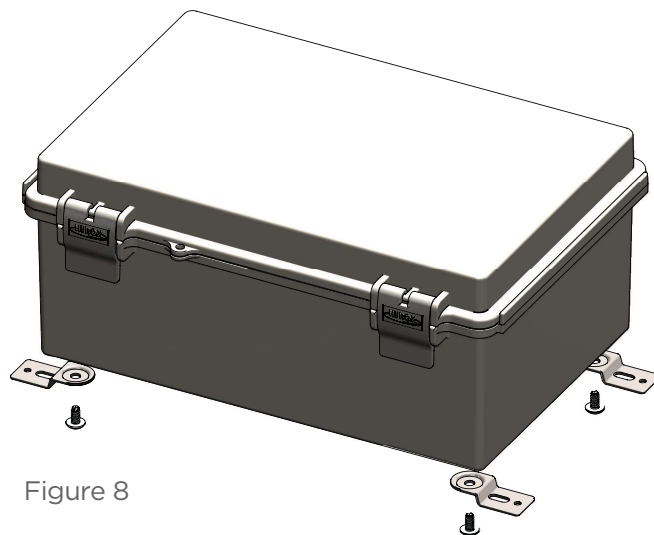

Figure 8
- Attached enclosure mounting “feet” as shown in Figure 8.